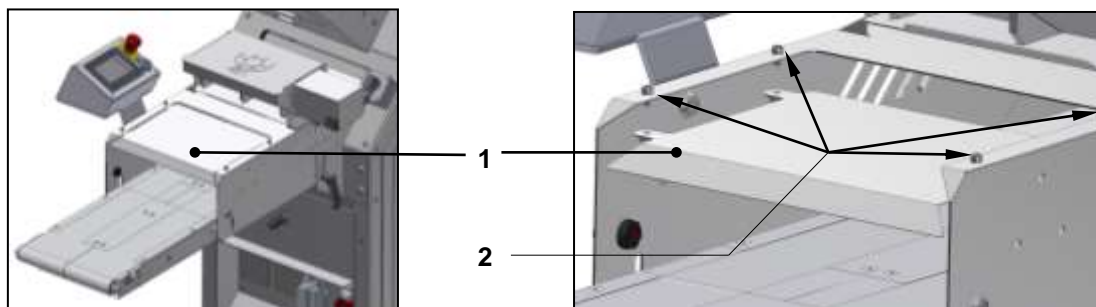

Figure 30 – Fixed panel with removable screws for cleaning the belts
With reference to Figure 30, to facilitate the cleaning of the belt under the protective tunnel ref. 3, remove the screws ref. 2 and the panel ref. 1; once the operation is completed, reassemble the panel ref. 1 blocking it into place with all the screws removed previously ref. 2. If the belts have worn, frayed, or cut surfaces, replace them immediately to prevent them from ripping during production, but above all to guarantee the hygiene of the product being processed.